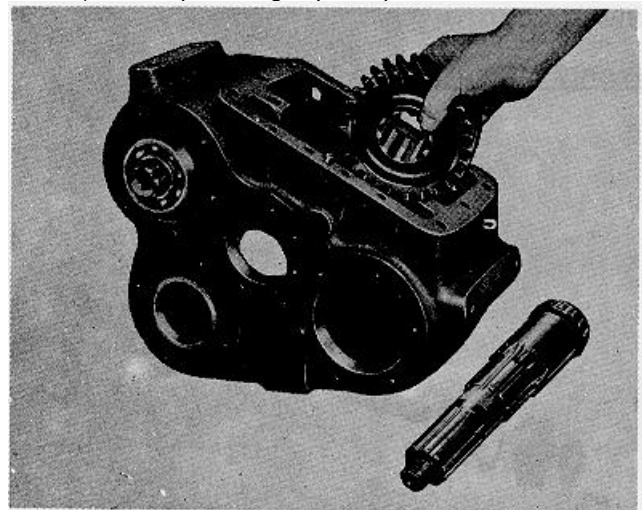

Fig. 28.
10. Hold rear output gear in position inside case and slide shaft through it (Fig. 28).